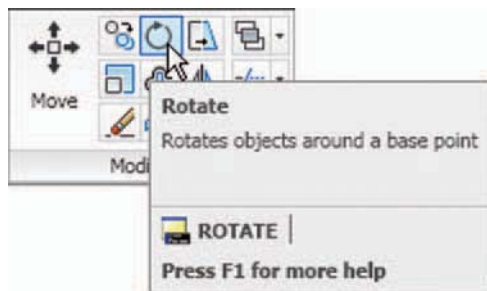

Fig. 5.26 The **Rotate** tool icon from the **Home/Modify** panel
2. Call **Rotate** – *left-click* on its tool icon in the **Home/Modify** panel (Fig. 5.26), *pick* its tool icon from the **Modify** toolbar, *pick* **Rotate** from the **Modify** drop-down menu, or *enter* **ro** or **rotate** at the command line.